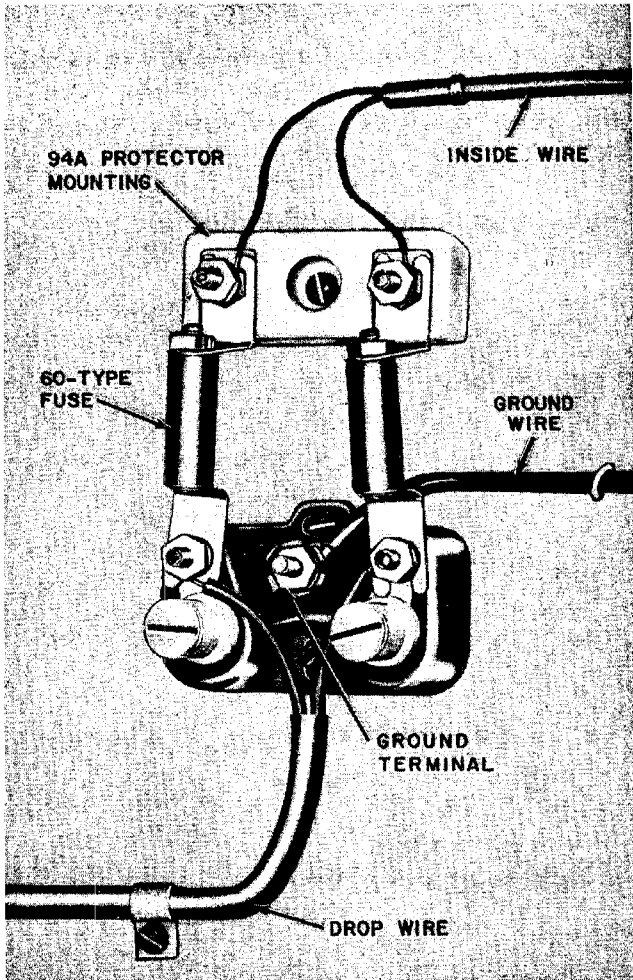

Fig. 19—94A Protector Mounting and 60-Type Fuses
7.03 Fig. 19 illustrates the 123A1A Protector equipped with 60-type fuses by means of a 94A Protector Mounting.